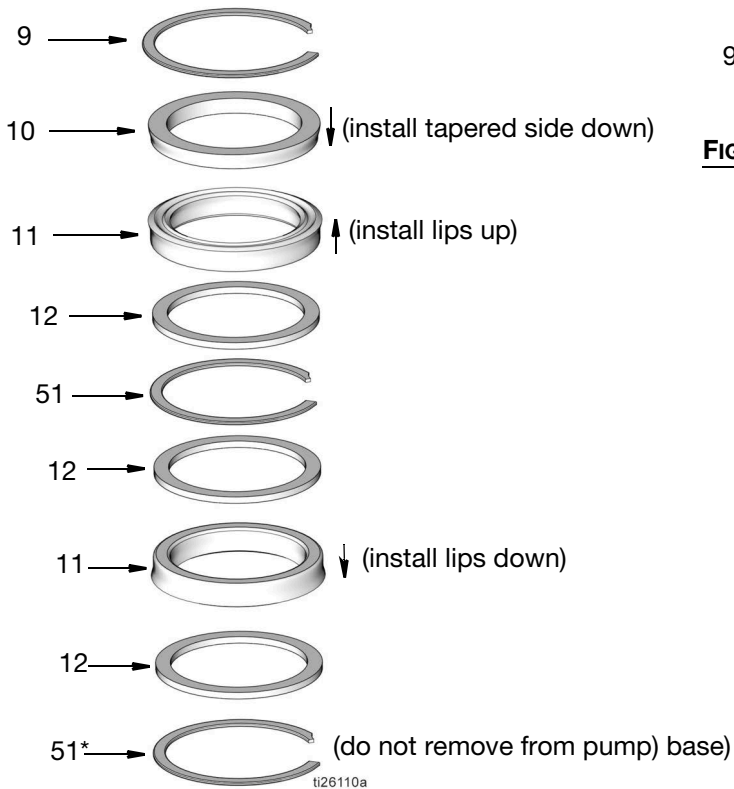

**FIG. 24**
- 17. Reposition the pump base (1) in the vise as shown in FIG. 24.